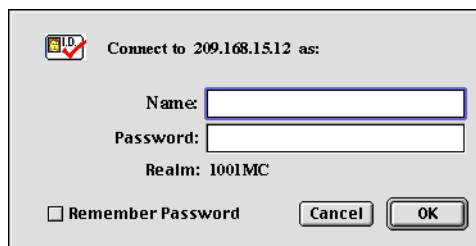

Figure 16. 1001MC login window
To log into the HTTP/HTML administration pages, you must enter the 4-octet Internet protocol (IP) address—in the format *http://your.server.ip.address* (for example, *http://201.168.15.12*)—as the universal resource locator (URL) into a World-Wide Web (WWW) browser. After you enter the IP address, the 1001MC will prompt for your user name and password as shown in figure 16.